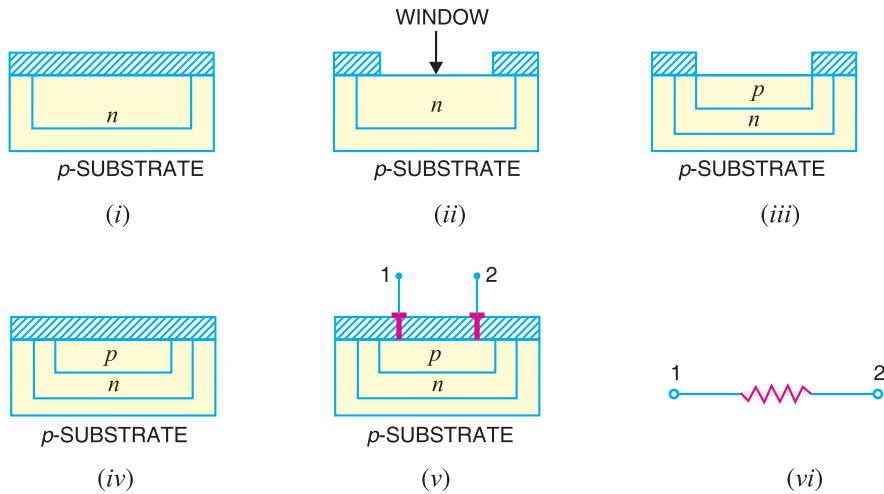

Fig. 23.8
**(iii) Resistors.** Fig. 23.8 shows how a resistor is formed on a portion of the substrate of a monolithic IC. For this purpose, the steps used for fabricating diode are carried out upto the point where  $n$  island has been formed and sealed off [Refer back to Fig. 23.5 (iii)]. This figure is repeated as Fig. 23.8 (i) and shall be taken as the starting point in order to avoid repetition.
A window is now formed at the centre of  $SiO_2$  layer, thus exposing the  $n$ -epitaxial layer as shown in Fig. 23.8 (ii). Then we diffuse a  $p$ -type material into the  $n$ -type area as shown in Fig. 23.8 (iii). The  $SiO_2$  layer is re-formed over the wafer by passing pure oxygen [See Fig. 23.8 (iv)]. The terminals are processed by etching  $SiO_2$  layer at two points above the  $p$  island and depositing the metal at these locations [See Fig. 23.8 (v)]. In this way, we get an integrated resistor. Fig. 23.8 (vi) shows the electrical circuit of a resistor.